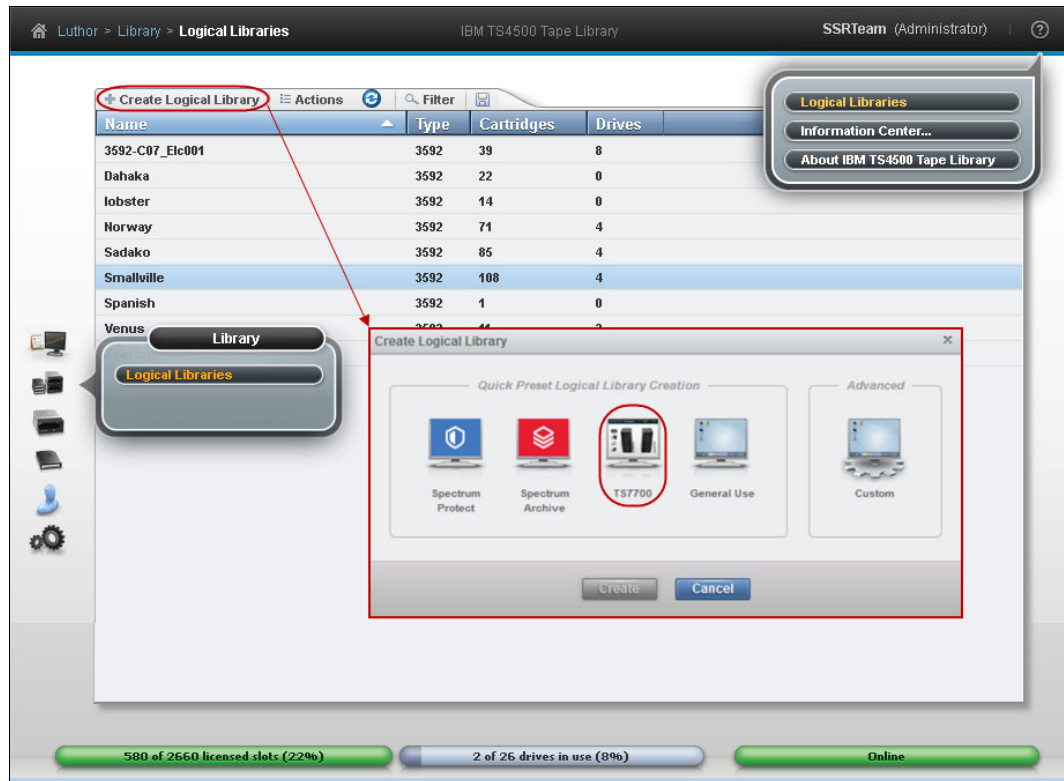

Figure 9-147 TS4500 create logical library page
1. From the initial page of the TS4500 GUI, select Library Icon and click logical library. See Figure 9-147 on page 512 for a visual reference.
2. Work with the *Create Logical Library* option as detailed in Figure 9-147 to complete the task.
Notice that the TS4500 GUI features selected presets, which helps in the setup of the new logical library. For the TS7700 library, use the TS7700 option that is highlighted in Figure 9-147. This option uses the 3592 tape drives that are not assigned to any existent logical library within the TS4500 tape library. Also, it selects up to four drives as control paths, distributing them in two separate frames, when this is possible.